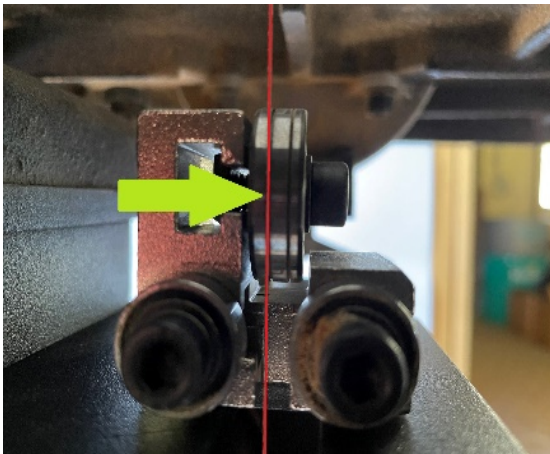
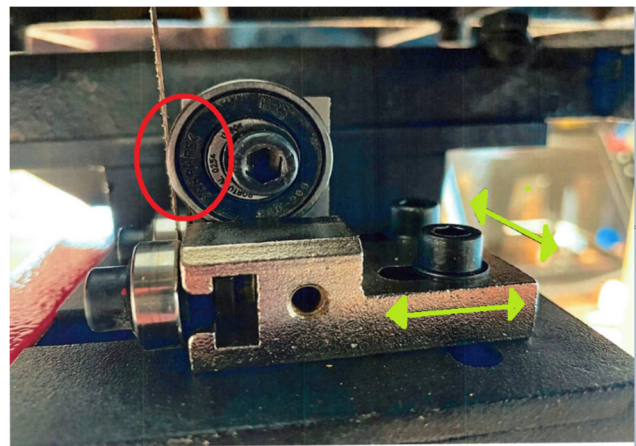

Figure 23
Figure 24
- Then adjust the depth of the left guide so that the heel of the band saw enters in the groove of the scroll bearing (Fig 23), and simultaneously adjust the guide laterally so that The left groove of the bearing is precisely in the axis of the blade. (Fig 24)